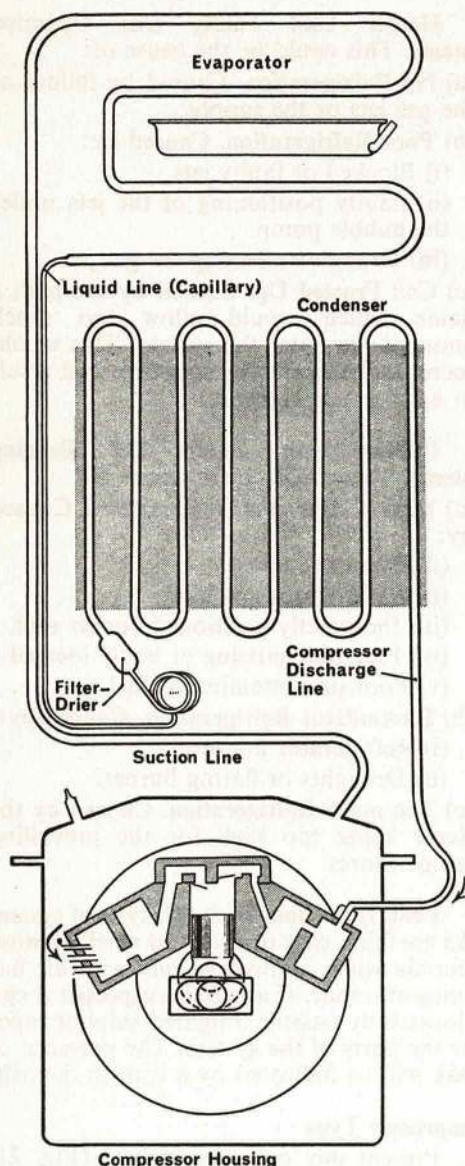

Fig. 21. COMPRESSOR TYPE
95. Present day compressor type (Fig. 21) cooling systems are of the "sealed" pattern. The motor and compressor are contained in an airtight housing to which the condenser and evaporator are connected by means of copper tubing. An expansion valve is not required because its function is taken over by the use of a very small bore pipe (liquid line capillary). Most sealed systems use a filter-drier to trap any moisture or foreign matter that may be present.